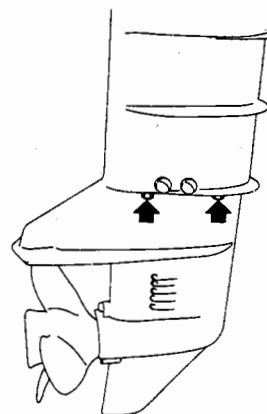

Fig.10.2 Gear case bolts removal
2. Remove the gear case bolts (H635-4), and withdraw the gear case assembly downward. (Fig.10.2)